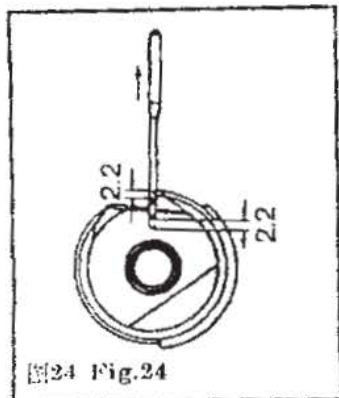

图24 Fig.24
- (1) 旋梭的勾线尖，应与机针的中心线一致；
- (2) 在此位置时，勾线尖应高于机针孔上边 2 毫米 (图 24)。
- (1) Looping point of rotary hook should be in with the mid-line of needle;
- (2) Looping point should be 2mm higher than the hole of needle (Fig.24)
The top of feed dogs should be 0.6~1mm higher than the level of needle plate when the feed dogs rise in the highest position. If sewing special heavy or light materials, the gauge of feed dogs should be regulated. When adjusting, first loosen the fixed screw 1 (Fig.24) of lifting belt crank.